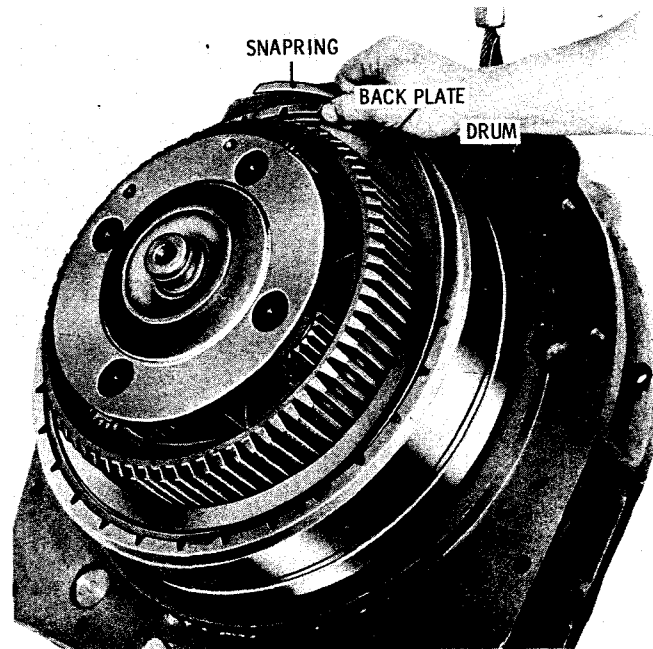

Fig. 7-53. Installing low-splitter clutch back plate snap ring (CBT, CLBT, VCLBT)
(22) Install the splitter clutch back plate into the low-splitter clutch drum (fig. 7-53). Install the internal snapring.